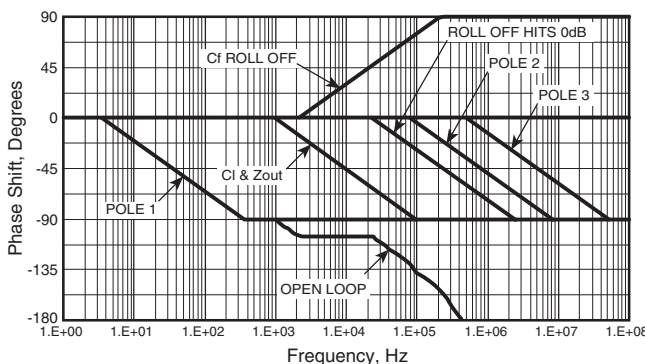

FIGURE 35.
**STEP 5:** The booster stage of the composite must be stable before we consider the overall composite amplifier. Booster circuit data was entered into the Cloud sheet of the Apex Precision Power Design spreadsheet. Initial indications were an intersection rate of 40dB per decade and a phase margin of only 19°. Figure 34 shows Power Design has already added the 150Ω amplifier output impedance to the 15Ω current limit resistor and calculated the pole with the capacitive load to be at 9.6KHz. The booster stage was compensated with  $C_f$  producing a closed loop pole (a feedback zero) at 21.3KHz. Do not be confused by sub-Hertz or multi-GHz entries in the table; these show up because the spreadsheet avoids division by zero errors by forcing extremely small values for non-existent capacitors. Refer to Figure 35 to see phase contributions of all elements added, closure frequency of 75KHz, closure rate of 20dB per decade, and a phase margin of 52°.